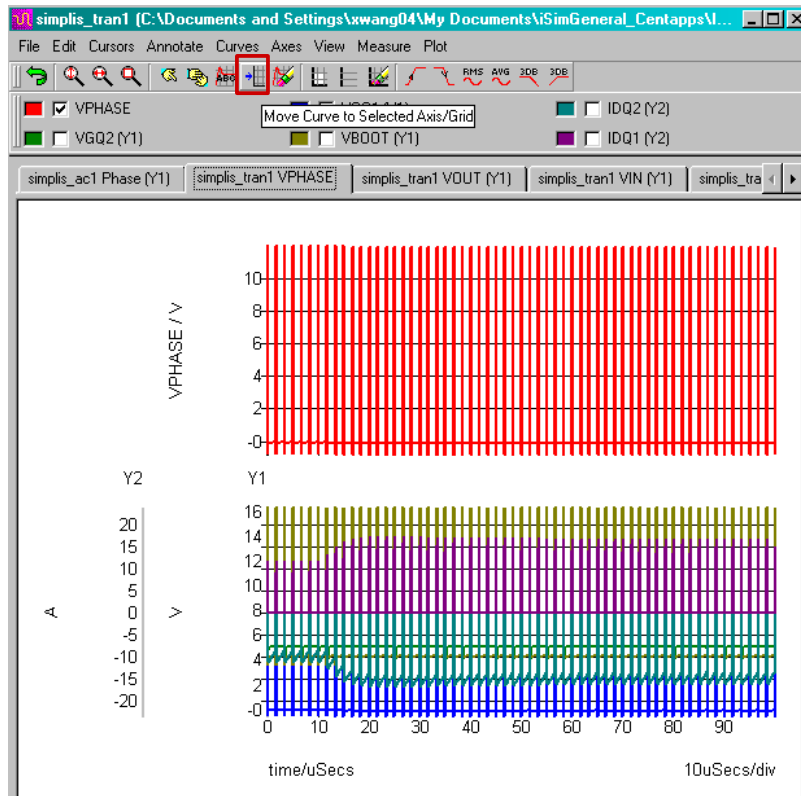

FIGURE 35. MOVE CURVE TO SELECTED AXIS/GRID
**Move Curve to Selected Axis/Grid** tab in the tool bar. Now VPHASE is in the new grid (Figure 35).